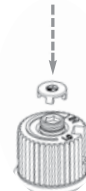

Fig. 6
14. Re-assemble the black protection cap (Fig. 6).